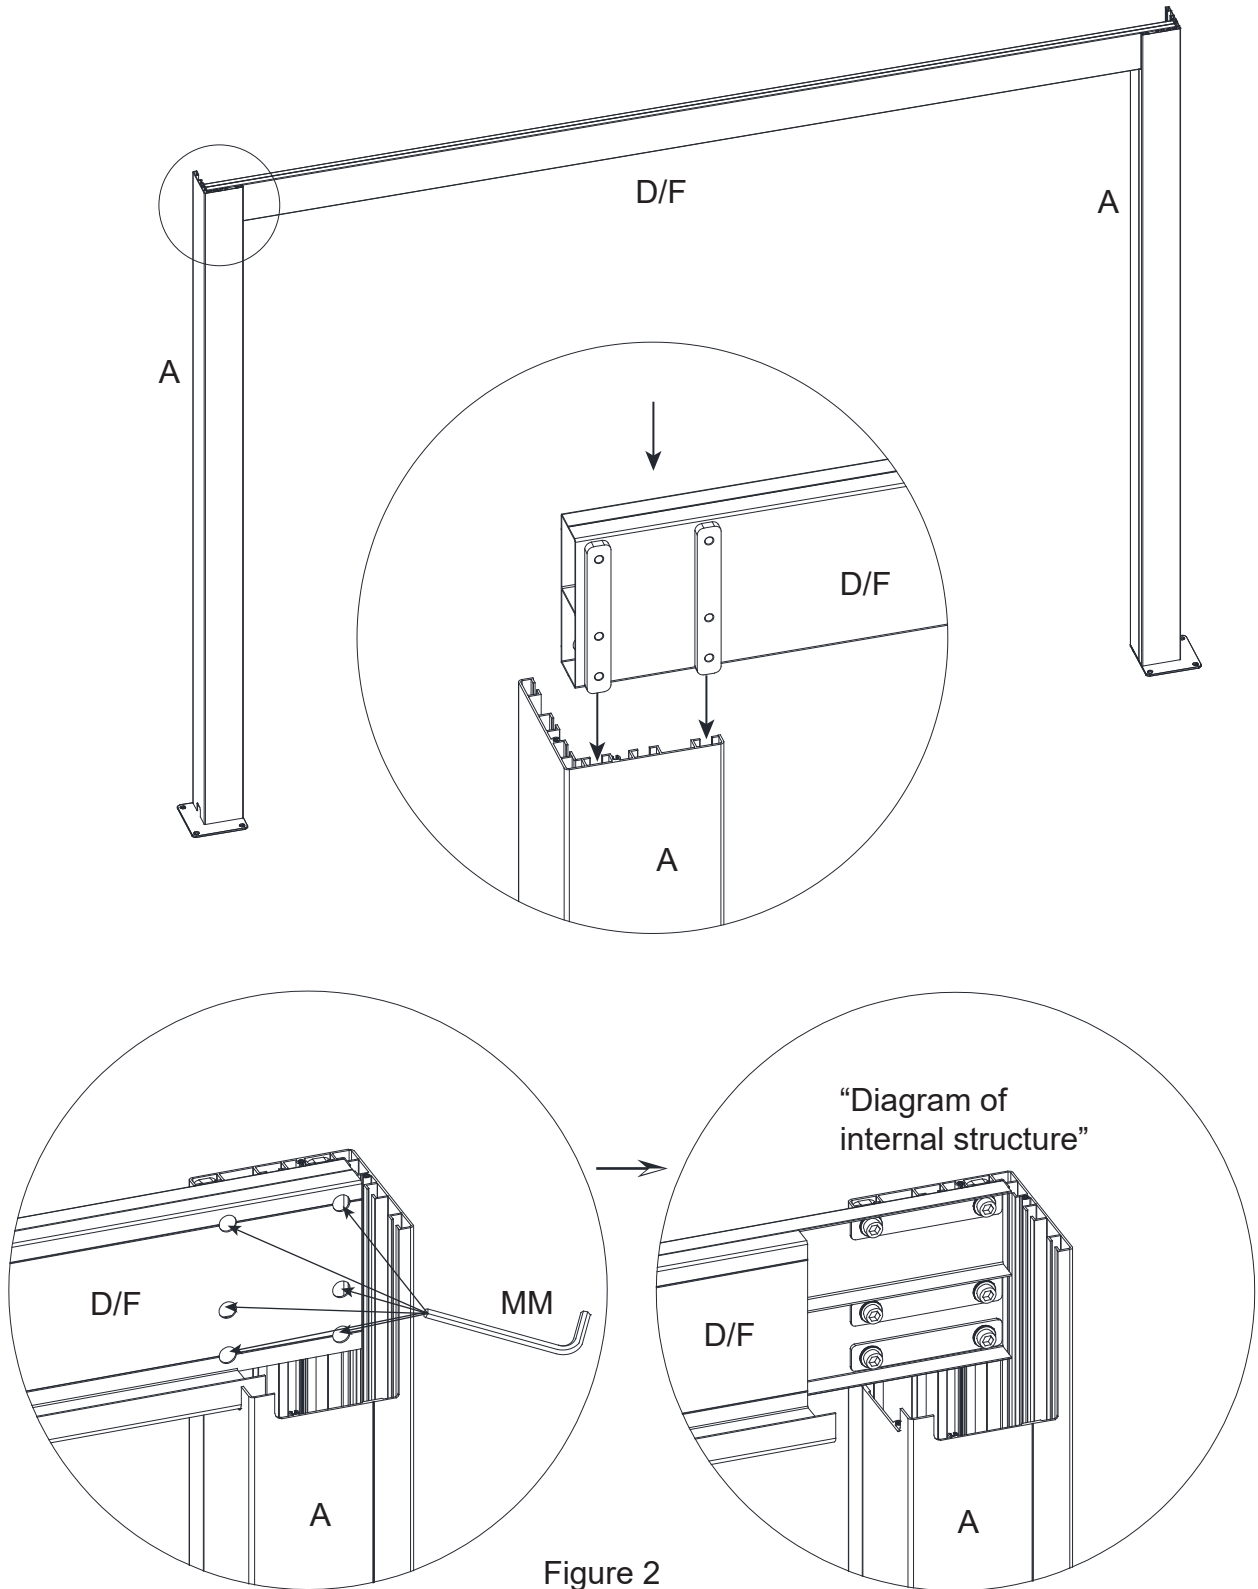

Figure 2
2. Slide the ends of the Front Lintel (D/F) into the groove in the Corner Post (A) and tighten the bolts in the Front Lintel (D/F) with the Allen Wrench (MM). See Figure 2.